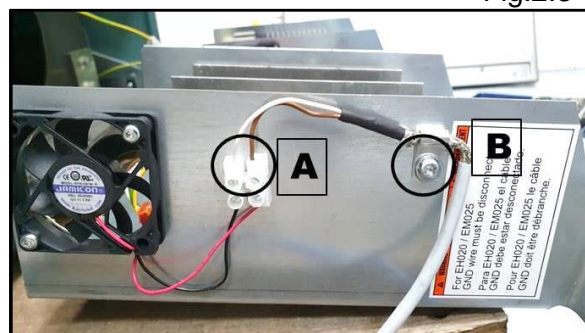

Fig. 2.4
6. Disconnect the fan power supply cables from terminal strip **A** (Fig. 2.4).
7. Unscrew the power cable **B** (Fig. 2.4).